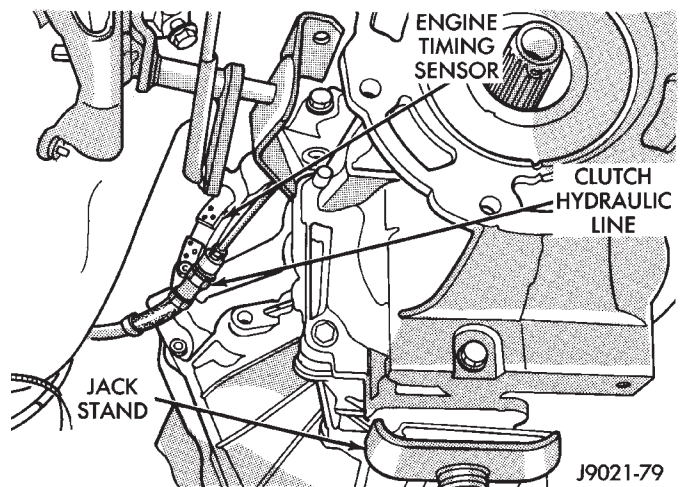

Fig. 8 Hydraulic Line And Timing Sensor Location
- (9) Remove crankshaft position sensor (Fig. 8).
- (10) Disconnect vehicle speed sensor wires.
- (11) Disconnect transmission and transfer case vent hoses.
- (12) Disconnect clutch master cylinder hydraulic line from concentric bearing inlet line (Fig. 8).
- (13) Support transmission-transfer case assembly with a transmission jack. Secure assembly to jack with safety chains.
- (14) Remove clutch housing brace rod on 4-cylinder models.
- (15) Remove clutch housing-to-engine bolts and remove transmission-transfer case assembly.
- (16) Remove bolts attaching transmission to transfer case and separate components.
- (17) Remove release bearing, fork and retainer clip.
- (18) Remove clutch housing.